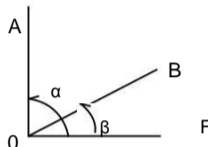

Fig.8
- (1) Sight A with vertical hair, read circle to get angle α .
- (2) Turn instrument to sight B, to get angle β .
- (3) $\angle AOB = \alpha - \beta$ (Fig.8)